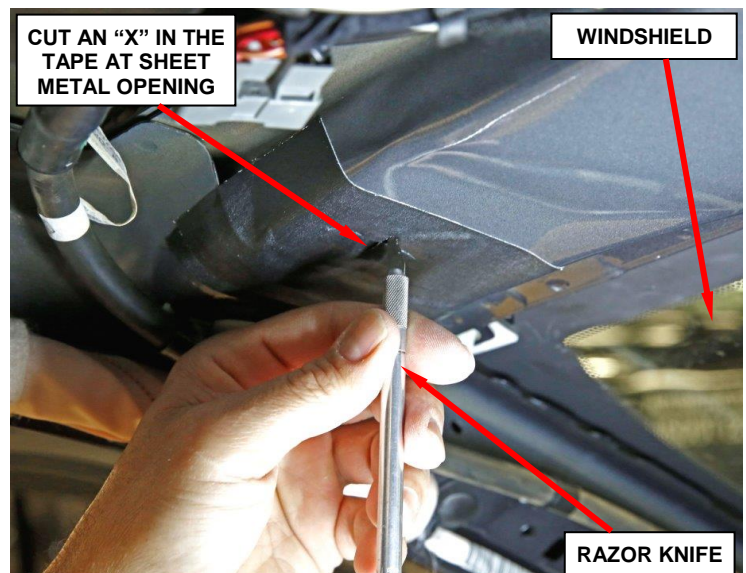

Figure 22 – Cut an "X" in the Tape (left side shown)
48. Using a razor knife, cut an "X" in the tape where it spans the sheet metal opening for the sun visor base (Figure 22).